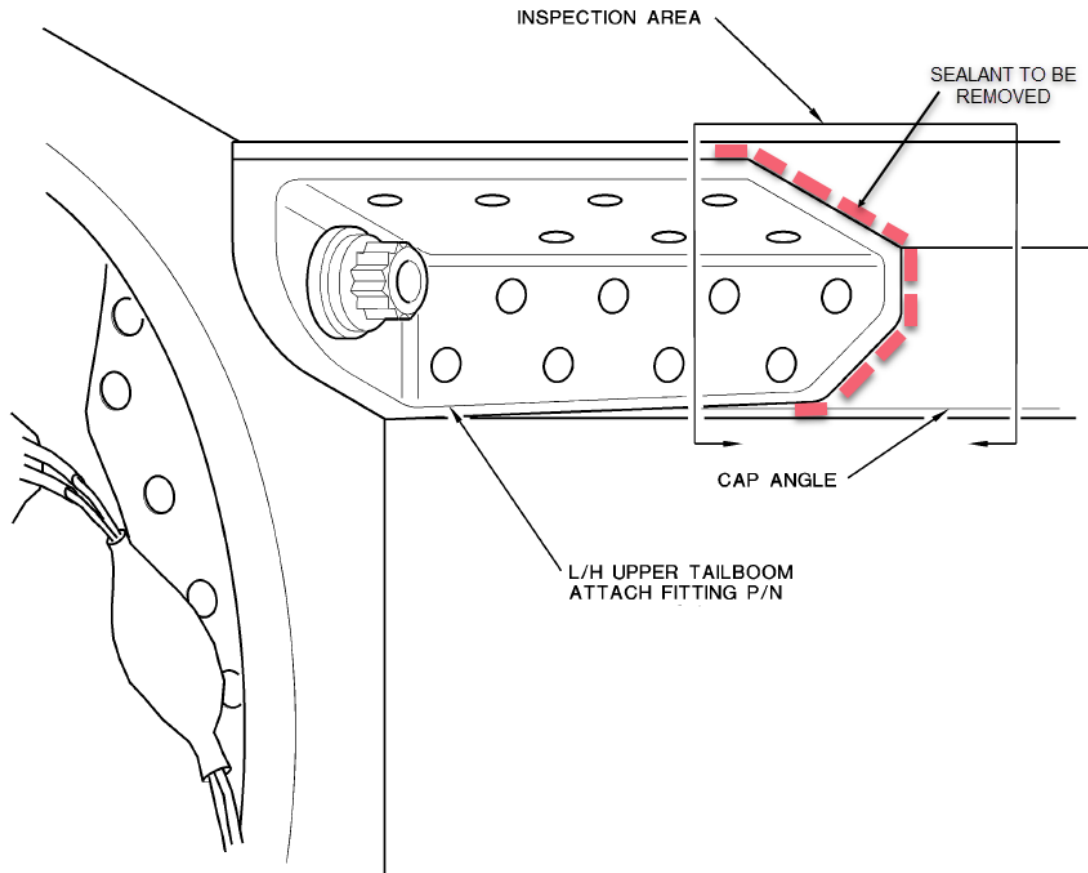

Figure1. Fuselage Tailboom Attachment Fitting Sealant Removal.
2. If sealant is present, remove sealant from edge of fitting (Figure 1).